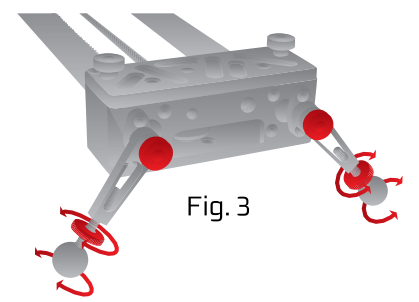

Fig. 3
To retract the foot, (1) rotate the washer down the post so it sits firmly against the rubber foot, and (2) rotate the foot in the opposite direction so the it retracts (Fig. 3).